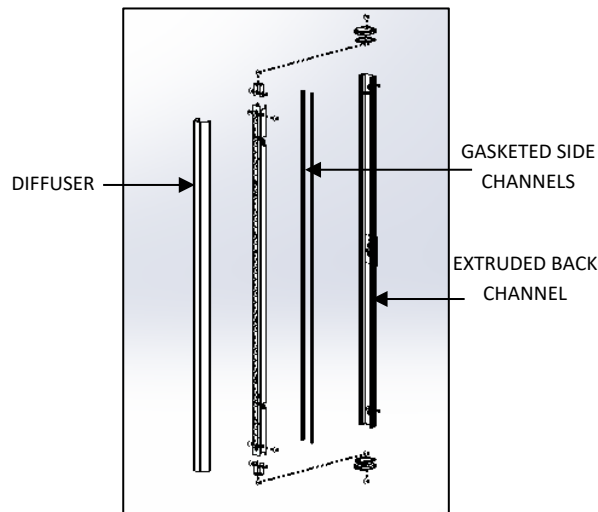

FIG.15 – DIFFUSER ASSEMBLY
9. Reattach DIFFUSER by pushing the legs into the GASKETED SIDE CHANNELS. Make sure top and bottom are flush with the ends of the EXTRUDED BACK CHANEL provided as shown in FIG.15.